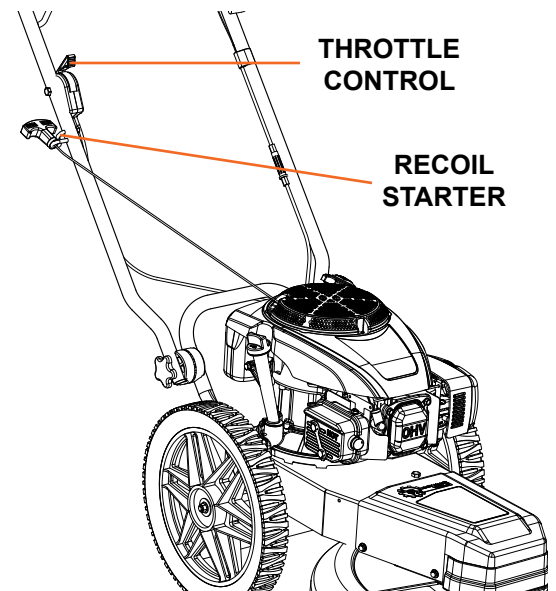

Figure 6
1. Push the throttle control lever on the right side of the handlebar (Figure 6) all the way forward (choke position).
1. Move the throttle control lever (Figure 6) all the way back past the SLOW position to the STOP position.